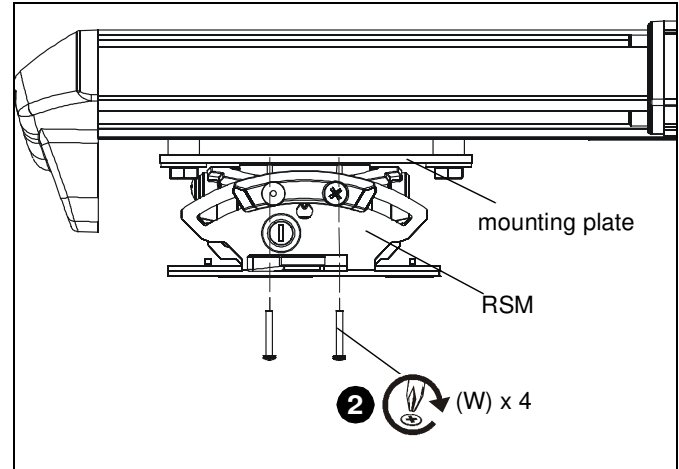

Figure 16
2. Install four 10-24 x 1-3/8" Phillips pan machine screws (W) through RSM holes and into projector mounting plate. (See Figure 16)